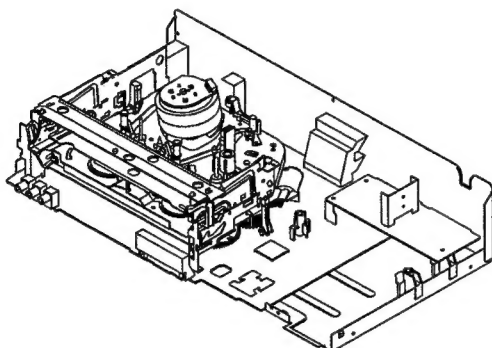

Fig. 1
1. Remove the Top Cabinet, Front Cabinet and DVD Block and the Fig. 1 below can be seen. (Refer to item 1 of the DISASSEMBLY INSTRUCTIONS.)